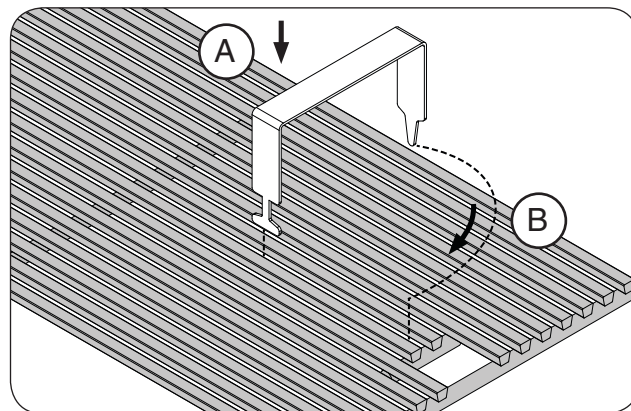
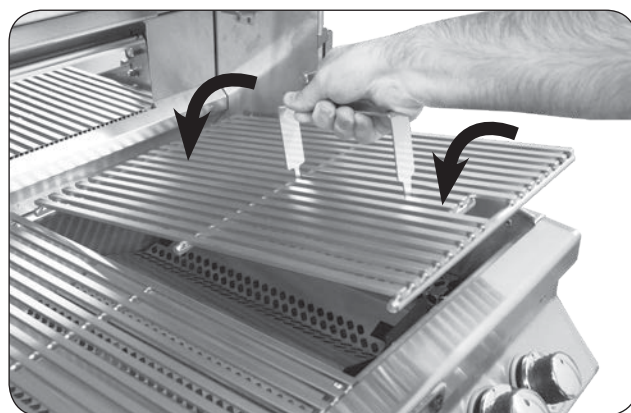

Fig. 22-1 Install cooking grids
Fig. 22-2 Install cooking grids
1. With the prongs facing downward, insert the notched-end of the lifter between two grid rods, then rotate, as shown in Fig. 22-1, A & B.
2. Insert the rear pointed-end of the lifter between the same two rods (Fig. 22-1, B) and carefully lift the cooking grid and place onto the front and rear grid rests of the grill (see Fig. 22-2). Repeat for all other cooking grids.